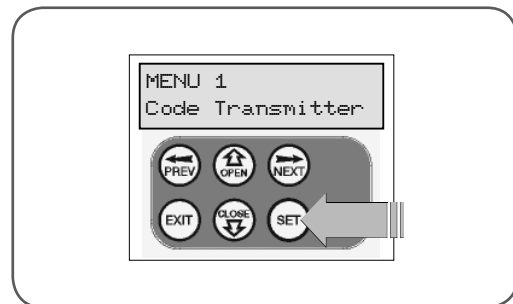

fig 35
2. Press SET to enter the transmitter edit procedure (**Fig. 35**).